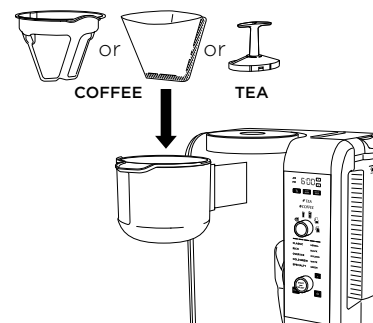

Fig. 11
- 2 Place the coffee permanent filter or a #4 paper cone filter in the COFFEE filter holder. If using a paper filter, first ensure the permanent filter is removed from the filter holder. Then fold the paper filter along the seams, open it fully, and firmly press it into the filter holder making sure it is fully seated (**Fig. 11**).
- 2 Place the tea permanent filter in the TEA filter holder (**Fig. 11**). When using tea bags, you may remove the tea permanent filter if more space is needed in the brew basket.